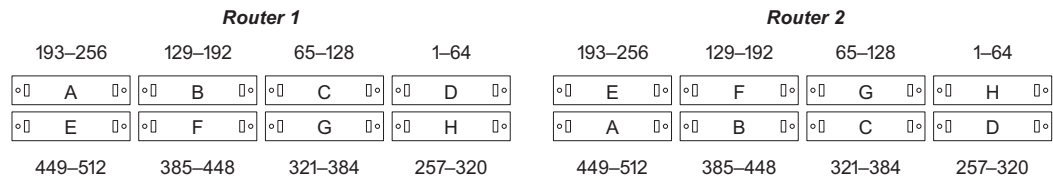

Figure 3-7. Expansion Connections on NV8256-Plus Routers (Rear View)
- 3 Facing the rear of the **first router** (Router 1), connect the signal expansion connector (WC0056-00) to expansion connection 'Inputs 193–256' (A), as shown in Figure 3-7.
- 4 Facing the rear of the **second router** (Router 2), connect the other end of the signal expansion cable6 to expansion ‘Inputs 449–512’ (A), as shown in Figure 3-7.